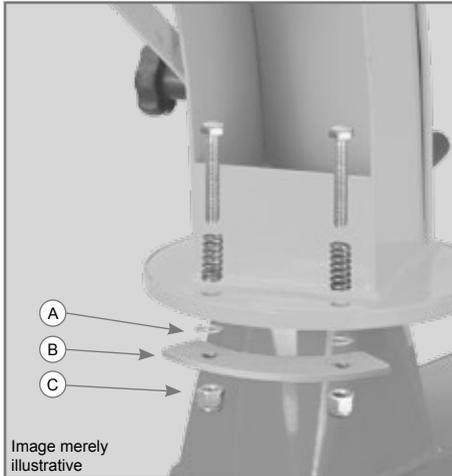

Figure 3
- ✓ Observe the assembly sequence of the holders: a washer (A) is placed over the fastening plate (B) and is fastened with nut (C), according to Figure 3.